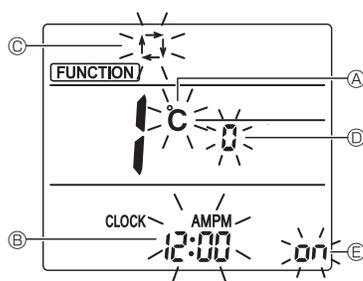

Fig. 3-2
- Press the button ④ to change the function No.
- Check that function No. "1" is displayed, and then press the button ③.
- The display setting screen will be displayed. (Fig. 3-2)
2) Changing the temperature unit ① (Fig. 3-2)
- Press the button ⑤.
- Each time the button ⑤ is pressed, the setting switches between °C and °F.
3) Changing the time display ⑦ (Fig. 3-2)
- Press the button ⑥.
- Each time the button ⑥ is pressed, the setting switches between and .
4) Changing the AUTO mode ③ (Fig. 3-2)
- Press the button ⑦.
- Each time the button ⑦ is pressed, the setting switches between and .
5) Changing the pair No. ④ (Fig. 3-2)
- Press the button ④.
- Each time the button ④ is pressed, the pair No. 0-3 changes.
6) Changing the backlight setting ⑺ (Fig. 3-2)
- Press the button ⑧.
- Each time the button ⑧ is pressed, the setting switches between and .
- Press the button ③.